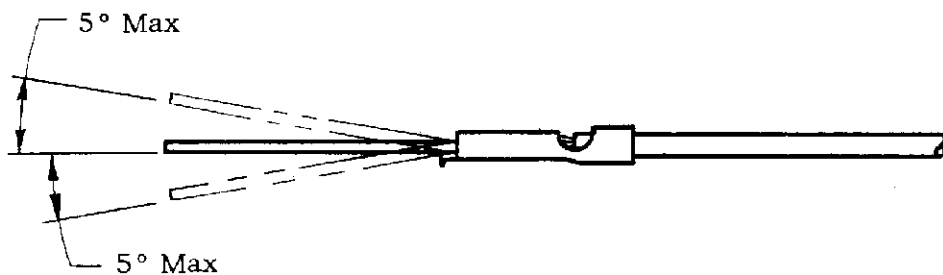

Figure 3
A. The uninsulated solid wire shall not be bent up or down beyond the limits specified in Figure 3.